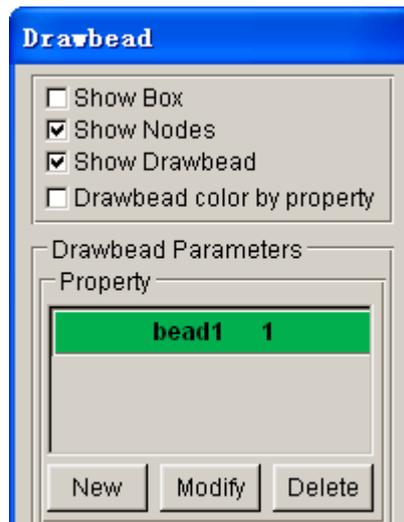

Figure 7.29 Draw bead properties list
- As illustrated in Figure 7.29, a new drawbead property named **bead1** is added to the list.